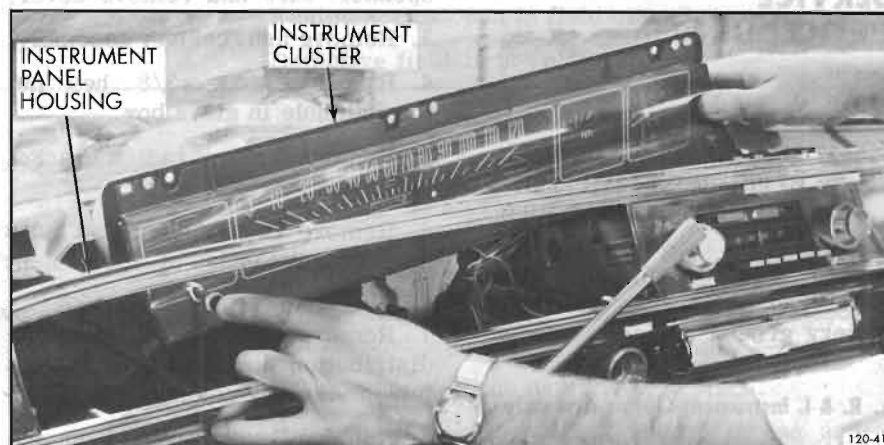

Figure 120-30—Removing Instrument Cluster
15. Shift instrument cluster to right and lift out. It may be necessary to depress cruise engage knob for clearance. See Figure 120-30.